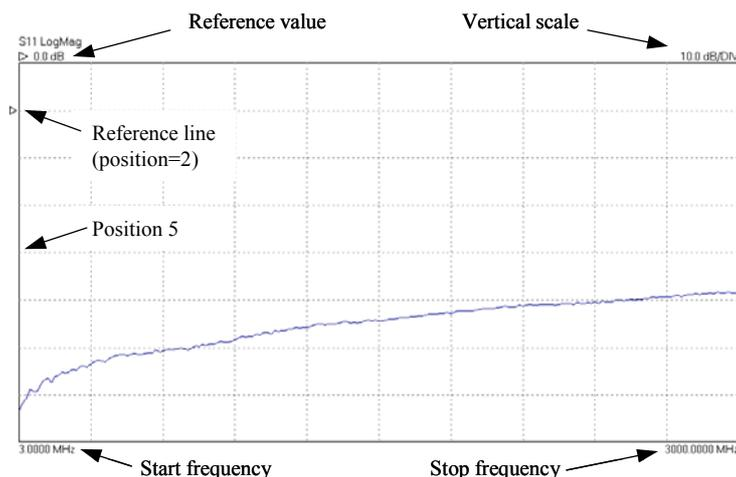

Figure 5.3 Display graph parameters
- Select the vertical axis values from the 'Vertical Axis' section. If desired, the Autoscale button can be clicked to automatically set the sensitivity and reference values. Note that reference position 1 is at the top (Fig. 5.3).